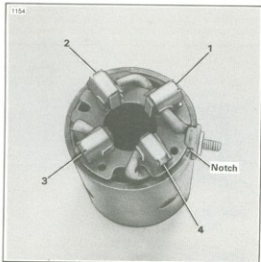

Figure 5-10. Installing Brush Holder
- See Figure 5-10. Place the brush holder on the frame and position the brushes as shown. The holder has a notch that must line up with the terminal.